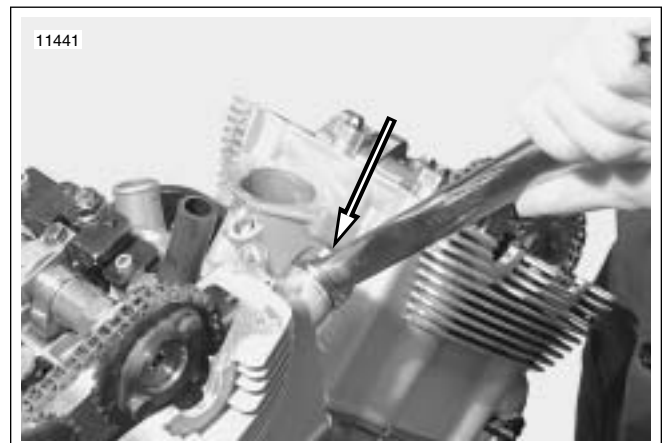

Figure 3-29. Remove Secondary Cam Chain Tensioner (typical)
18. See Figure 3-29. Remove secondary cam chain tensioner.